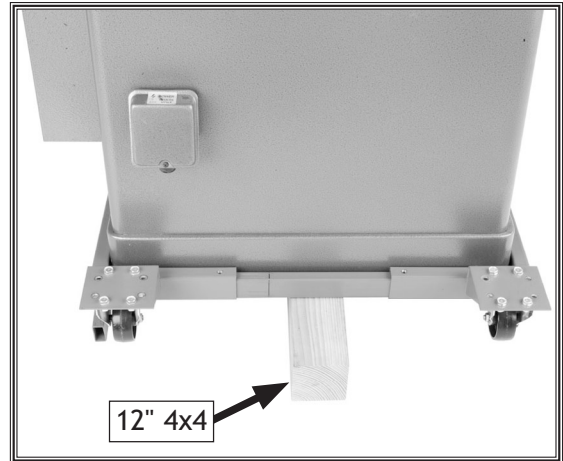

Figure 19. Fixed casters and rail placed around back of machine, which is raised up with a wood block.
11. Slide each of the corner brackets into the remaining rail and slide the assembly over the block and up against the machine, as shown in **Figure 19**.